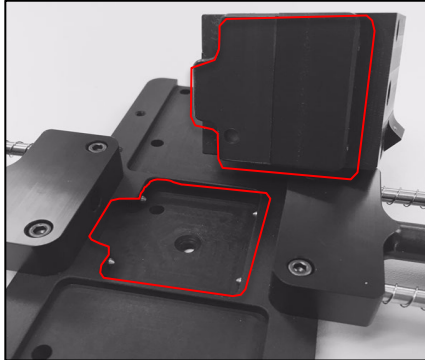

FIGURE 5: Dosimeter Holder orientation
4. All dosimeter holders are keyed and only insert into the baseplate in one orientation. Ensure proper orientation (see *Figure 5*) and insert the selected dosimeter holder so that it clicks firmly into place (see *Figure 6*). The dosimeter holder is held in place by spring-loaded detent pins.